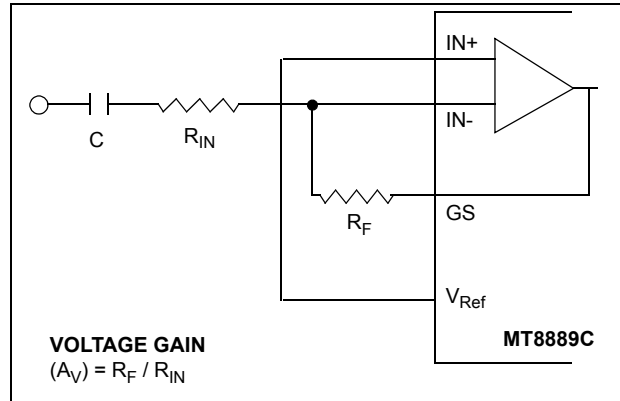

Figure 3 - Single-Ended Input Configuration
The input arrangement of the MT8889C provides a differential-input operational amplifier as well as a bias source ( $V_{\text{Ref}}$ ), which is used to bias the inputs at  $V_{\text{DD}}/2$ . Provision is made for connection of a feedback resistor to the op-amp output (GS) for gain adjustment. In a single-ended configuration, the input pins are connected as shown in Figure 3.